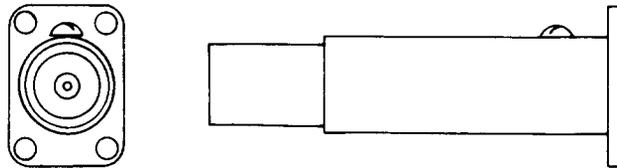

Fig. 14—564A Jack
**2.14 564A:** This coaxial-type jack (Fig. 14) has coaxially arranged inner and outer contacts designed to be used with a 358A and similar-type plugs. At the threaded end, the inner contact terminal is designed for a soldered wire connection and not designed for a connection to a coaxial cable. This jack is used in the TH Radio.